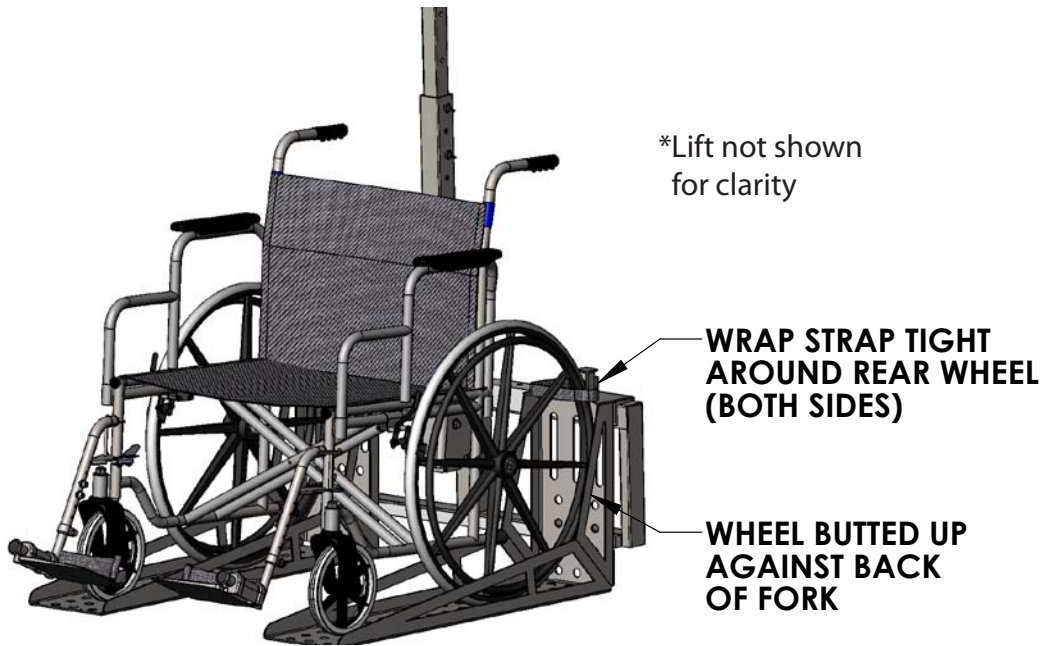

FIGURE 3
4. Attach the safety straps (both sides) around the rear wheels, as shown in FIGURE 3 on page 6. Tighten the straps until they are snug, make sure the wheels are strapped tightly against the back of the forks.